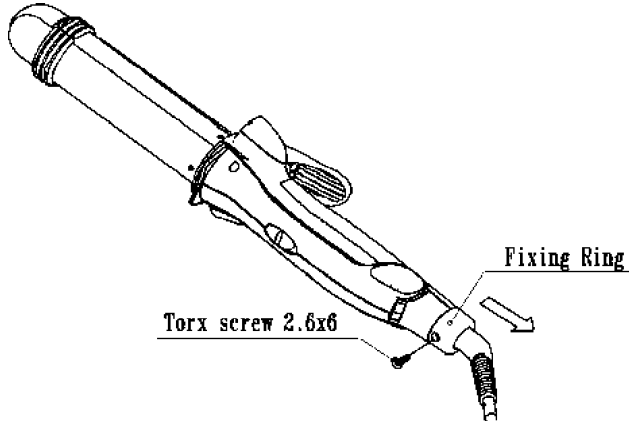

Figure 1
1. Remove torx screw (2.6x6.0) and slide the Fixing Ring as shown in Figure 1.